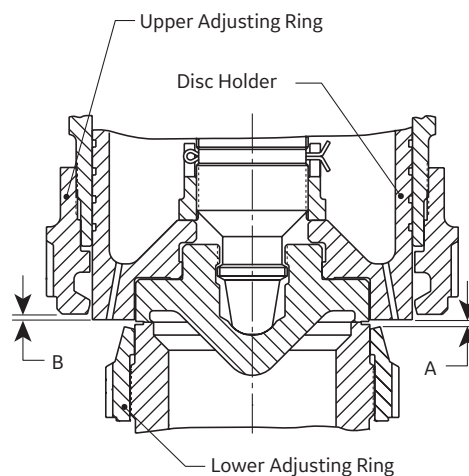

Figure 33
- e. Refer to Figure 33, and move the lower adjusting ring down the number of notches indicated in Column A, plus 1 additional notch for each 600 psig (41.37 barg) increment of set pressure, not to exceed six notches (see Table 12).
- From this point, move the upper adjusting ring down the number of notches indicated by Column B of Table 12. This is also Dimension B in Figure 33.